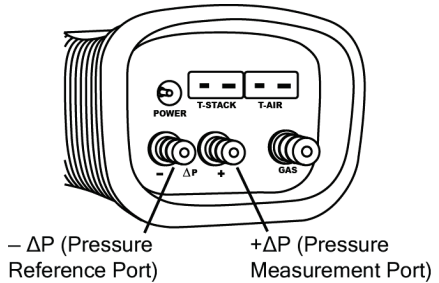

Figure 5-12. Draft/Pressure Measurement Hose Connections
- Reconnect any hoses. When measuring draft, simply leave the $-\Delta P$ port open to the atmosphere and connect the probe's draft hose to the $+\Delta P$ port (see Figure 5-12).